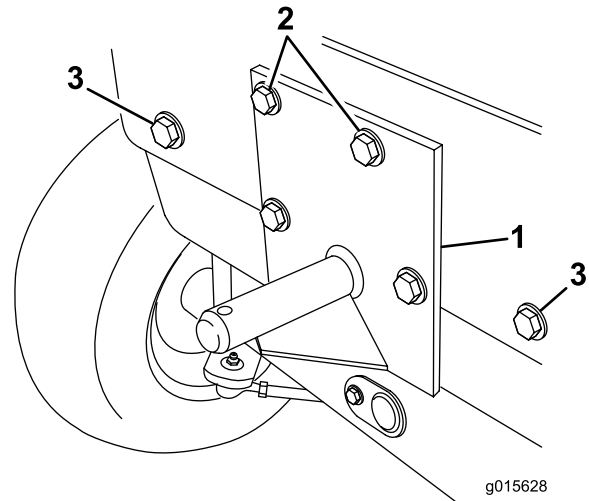
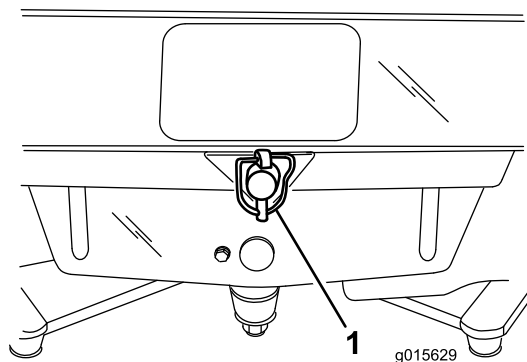

Figure 14
Figure 15
4. Position the rear hopper bracket on the rear frame, as shown in Figure 14, while aligning the (2) bottom mounting holes with the holes in the frame. Using the bracket as a guide, locate, mark and drill the remaining (2) 9/16 inch diameter holes in the rear frame.
5. On models 30343 and 30344 with serial numbers 260000001 and up, install (2) 1/2 x 1-1/4 inch capscrews (included in kit) and (2) previously removed 1/2 inch lockwashers and 1/2 inch flatwashers in the outer frame holes to secure the inside weight (Figure 14).
6. On traction units with serial numbers 250000001 thru 259999999, mount the top of the rear hopper bracket to the frame using (2) 1/2 x 1-1/4 inch capscrews, mounting strap and (2) 1/2 inch locknuts (Figure 14). The strap is to be positioned between the frame and the bracket.
7. On traction units with serial numbers 260000001 and up, mount the top of the rear hopper bracket to the frame using (2) 1/2 x 3 inch. capscrews, mounting strap, (2) 1/2 inch flatwashers and (2) 1/2 inch locknuts (Figure 14). The strap is to be positioned between the frame and the bracket.
8. On traction units with serial numbers 250000001 thru 259999999, mount the bottom of the bracket to the frame with (2) 1/2 x 1-1/2 inch capscrews, mounting strap, (2) 1/2 inch flatwashers and (2) 1/2 inch locknuts. The strap is to be positioned between the frame and the bracket.
9. On traction units with serial numbers 260000001 and up, mount the bottom of the bracket to the frame with (2) 1/2 x 1-1/2 inch capscrews, mounting strap, (2) 1/2 inch flatwashers and (2) 1/2 inch lockwashers. The strap is to be positioned between the frame and the bracket.
11. Secure the rear of the frame to the bracket pin with the disconnect pin (Figure 15).